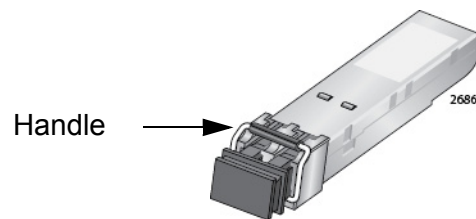

Figure 54. Handle on the AT-StackOP/0.3 and AT-StackOP/9.0 Transceivers
2. To install the transceiver in the S1 slot, position it with the handle on top, as shown in Figure 54. To install it in the S2 slot, position it with the handle on the bottom.